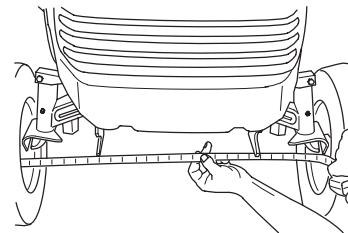

Figure 43
4. Measure the distance between both of the front tires at spindle level (at the front and rear of the wheels) (Fig. 43).